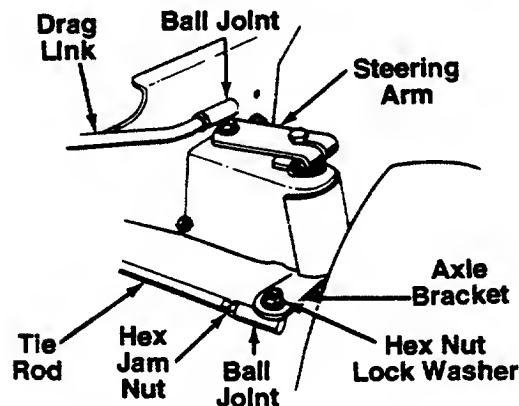

FIGURE 18.
1. Remove the hex nut and lock washer, and drop the end of the tie rod from the axle bracket. See figure 18.
To take off the drag link, remove the nuts and lock washers holding the ball joint to the steering gear and right front axle bracket. See figure 18.